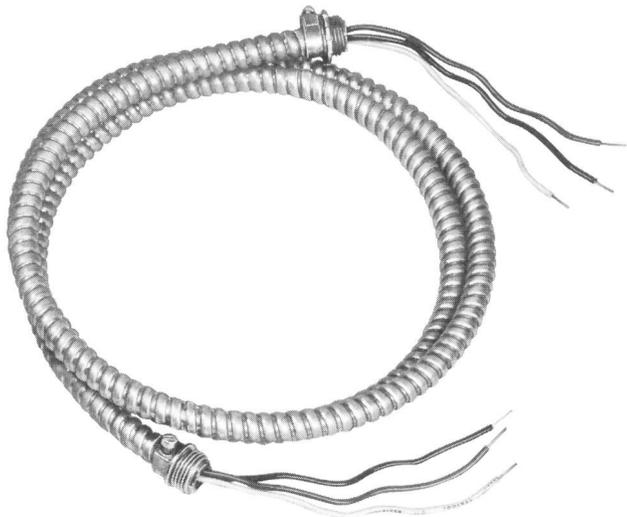

Fig. 6—KS-19425, List 24, Power Cable Assembly
2.14 A KS-19425, List 24 power cable assembly (Fig. 6) is used to bring ground level or underground power from the KS-19426, List 17 junction box assembly to the power receptacle.